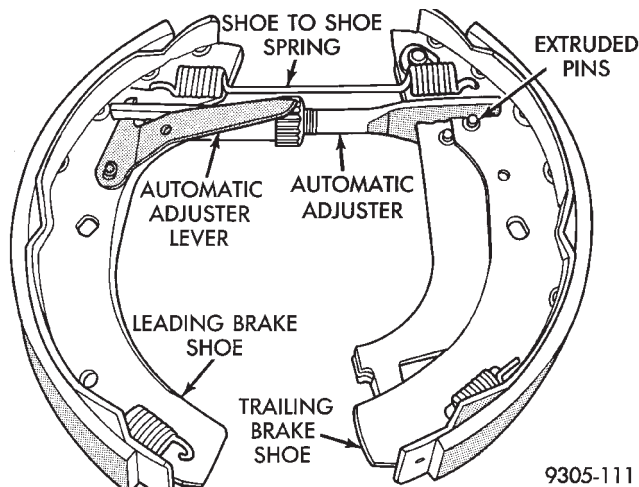

Fig. 16 Rear Brake Shoes Assembled (Left Rear Shown)
(2) Assemble leading and trailing brake shoe assemblies, top shoe to shoe spring, automatic adjuster lever and automatic adjuster (Fig. 16), before mount-
ing on vehicle. Be sure automatic adjuster ends are above extruded pins in web of brake shoes as shown in (Fig. 16).